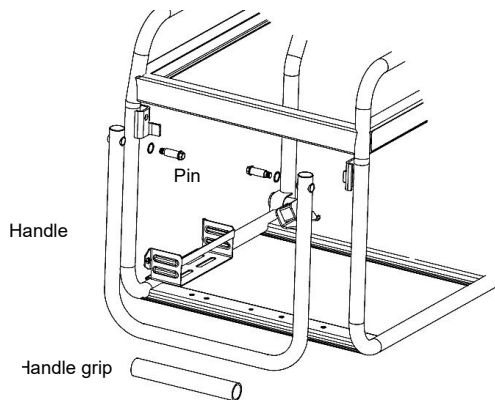

Fig. 9: Install the handle assembly
Step 1: Insert the handle bracket onto the generator frame and secure with two M8 bolts and two M8 flange nuts (Fig. 9).